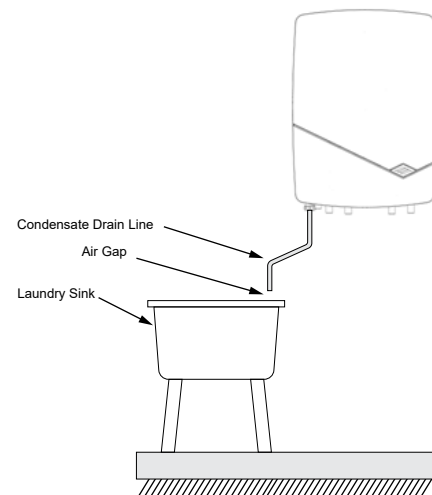

Figure 5.3: Condensate To a Laundry Tub
2. To a laundry tub (Figure 5.3)